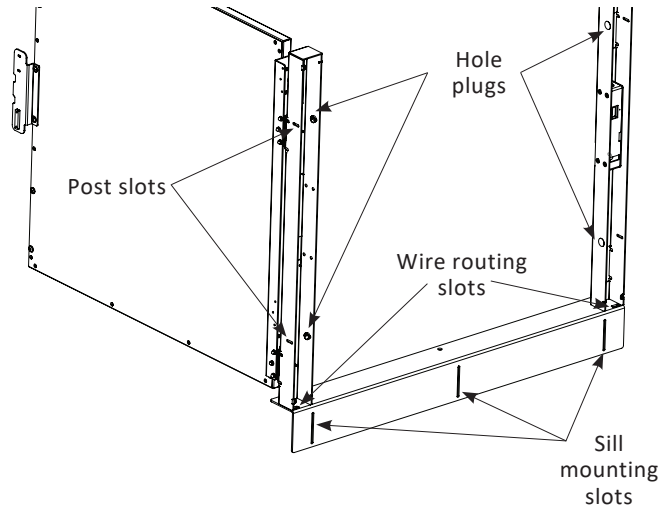

Figure 4-12
2. Create the necessary space below the gate sill so the wire can be routed into the gate post through the wire routing slot. **See Figure 4-12.**